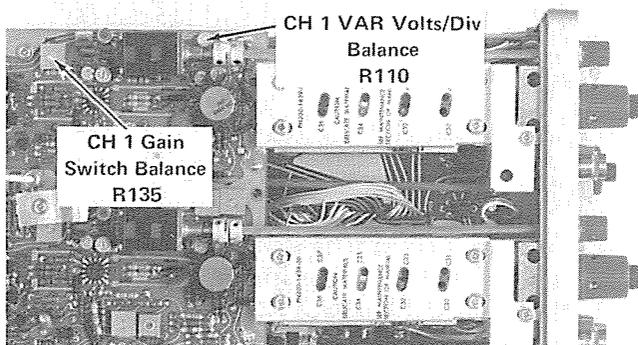

Fig. 5-8. Location of CH 1 Var Volts/Div Balance and Gain Switch Balance adjustments.
e. ADJUST—CH 1 Variable Balance adjustment, R110 (see Fig. 5-8) for minimum trace shift when rotating the CH 1 VAR control through its range.
d. ADJUST—CH 1 Gain Switch Bal adjustment, R135 (see Fig. 5-8), for minimum trace shift between 2 mV and 5 mV positions of the CH 1 VOLTS/DIV switch.